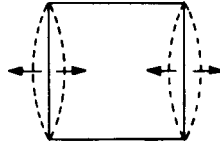

Figure 6-6. Side Distortion
- Adjust RV-202 (KEY BAL), RV-201 (KEY), RV-206 (SIDE PIN BAL), and RV-203 (PIN AMP) to minimize horizontal distortion. See Figure 6-6.